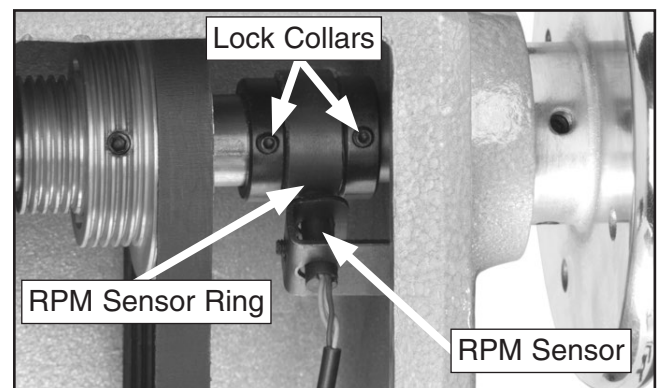

Figure 54. RPM sensor.
6. Position the spindle RPM sensor ring in-line with the RPM sensor. Slide the lock collars snug against each side of the sensor ring, then tighten the set screws (**Figure 54**).